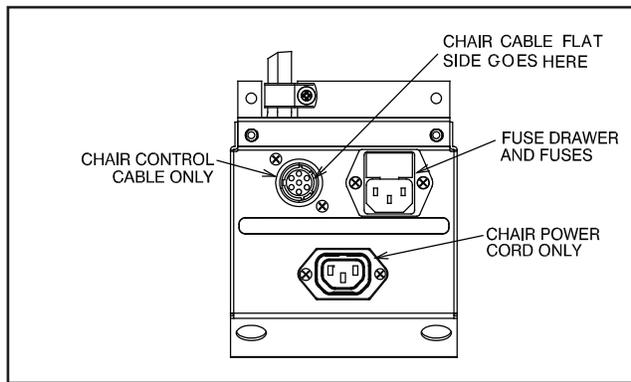

FIGURE 3
2.7.2. A Chair Control Cable is provided to control the vertical movement of the Chair Base from the Floor Unit. One end of the cable is to be inserted into the black circular receptacle on the Outlet Plate Assembly. See Figure 3. Push the socket into the connector and twist clockwise to lock. The other end of the cable is to be inserted into the mating receptacle marked "CHAIR CONTROL CABLE" in the rear of your Ophthalmic Chair OSC 600.
1. The Fuse Drawer is located above the power cord. See Figure 3 (AC input Module).